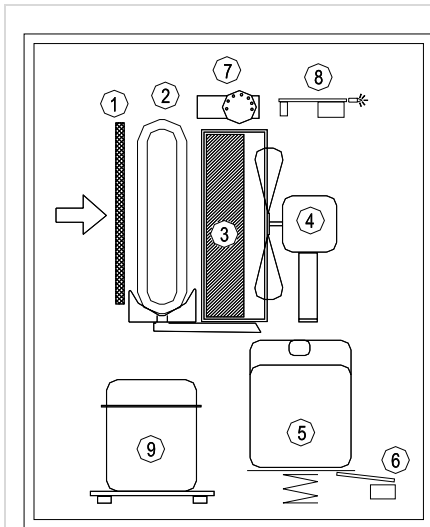

Fig. 1
Reference: (Fig. 1/2), **De-humidistat (7)** starts the functioning of the dehumidifier when the humidity is higher than the preset level. Air is drawn in through the **filter (1)** flows through the aluminium refrigerated **coil/ evaporator (2)**, through the **heat exchanger/ condenser (3)**. Finally, **the motor fan (4)** expels the air back into the room through the front grilled panel. The condensed water is collected in the **tank (5)**. A **micro-switch (6)** stops the machine when the water in the tank reaches the correct level activating the full circuit. An **electronic circuit (8)** controls the defrosting and prevents the **compressor (9)** from short cycling.